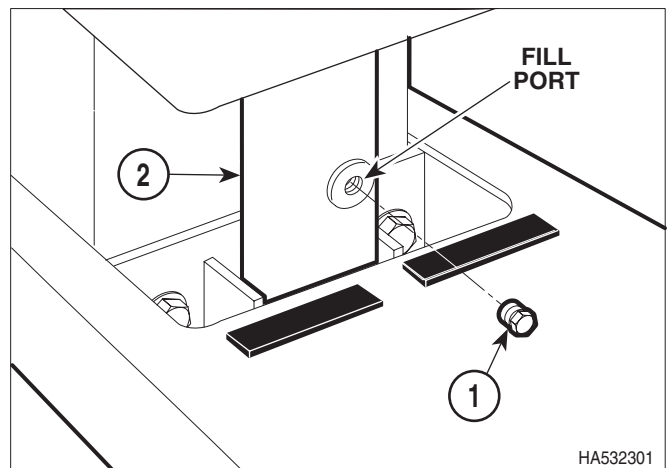

Figure 4-5. Adding Oil To Hydraulic System
- (1) Depress foot pedal as far as it will go to lower the litter top; lower litter top until it is approximately 4 in. (10.1 cm) above the "fully lowered" position (to gain access to fill port).
- (2) Raise the bellows or bottom column cover for access (Refer to para 4.3 or 4.3.1).
- (3) Remove plug (1, Figure 4-5) from fill port of elevation cylinder (2).